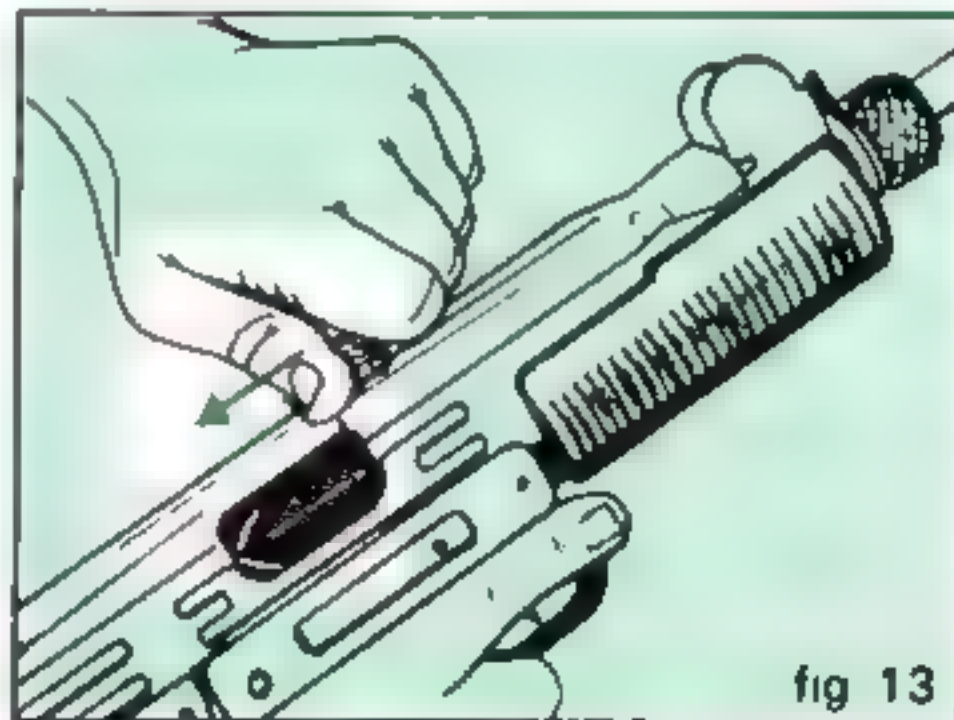

fig 13
- 4 While fully depressing the grip safety, pull cocking knob all the way back and release knob instantly to allow bolt to snap forward (fig 13)